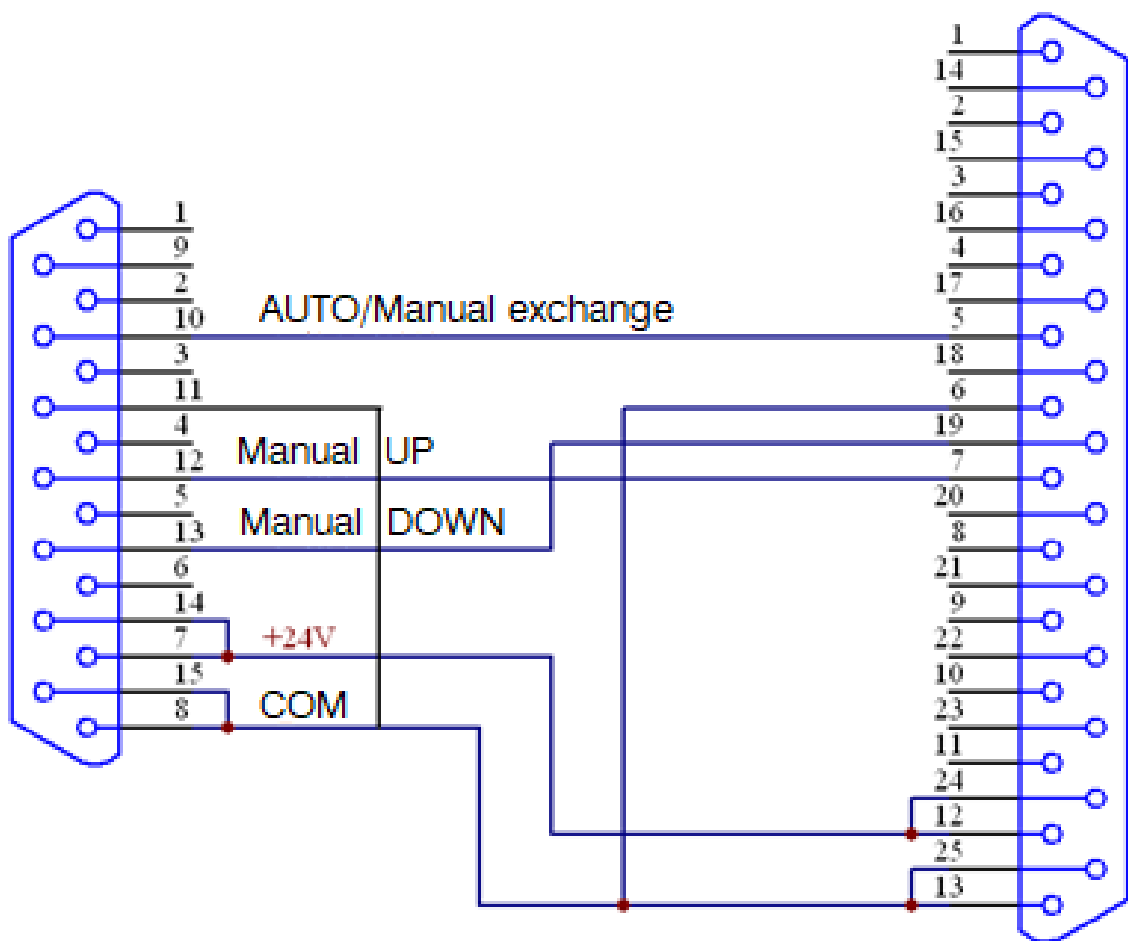

Fig. 3-7 Diagram of Capacitance THC Connecting to Numeric Control System.
- The connectors which connect THC (15-Core connector) with Numeric Control System (25-core connector) are prepared by users. The Fig. 3-7 shows the connection; the detailed definitions of 15-core connector and 25-core connector are provided in Table 3-1 and Table 3-2.